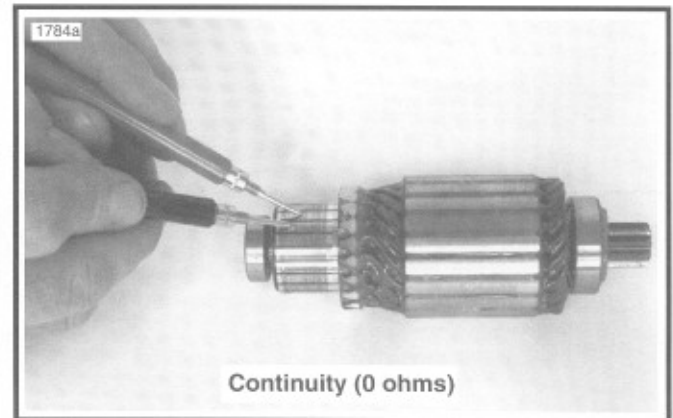

Figure 5-16. Open Armature Test
11. See Figure 5-16. Check for **OPEN** ARMATURE with an ohmmeter or continuity tester. Check for continuity between all commutator segments. There should be continuity (0 ohms) at all test points. No continuity at any test point indicates armature is open and must be replaced.